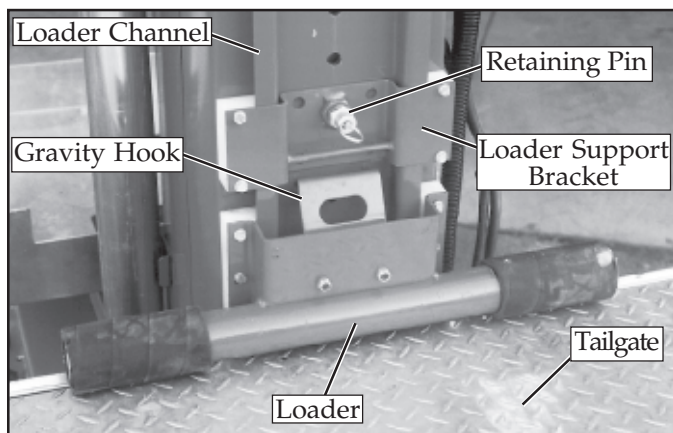

Figure 6: Loader in load position
1. Disconnect the plug from the battery box and remove the battery box from the rear of the machine (Figure 6).
2. Raise the loader support bracket and engage the retaining pin in the top hole of the loader channel (Figure 6).